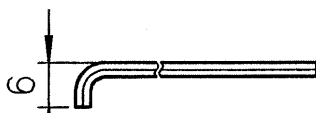

FIG.1 HEX KEY WRENCH
4. PLEASE USE A BALL POINT WRENCH OR HEX KEY WRENCH(FIG.1) TO TIGHTEN THE MOUNTING SCREW.